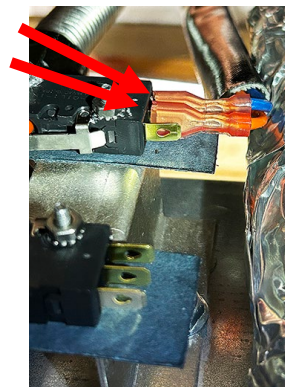

Figure 12
19. Attach the orange and blue wires from one end of the harness to the rear switch on the dispose assembly. Ensure the wires are attached to the two rear terminals on the switch as shown (see Figure 12).